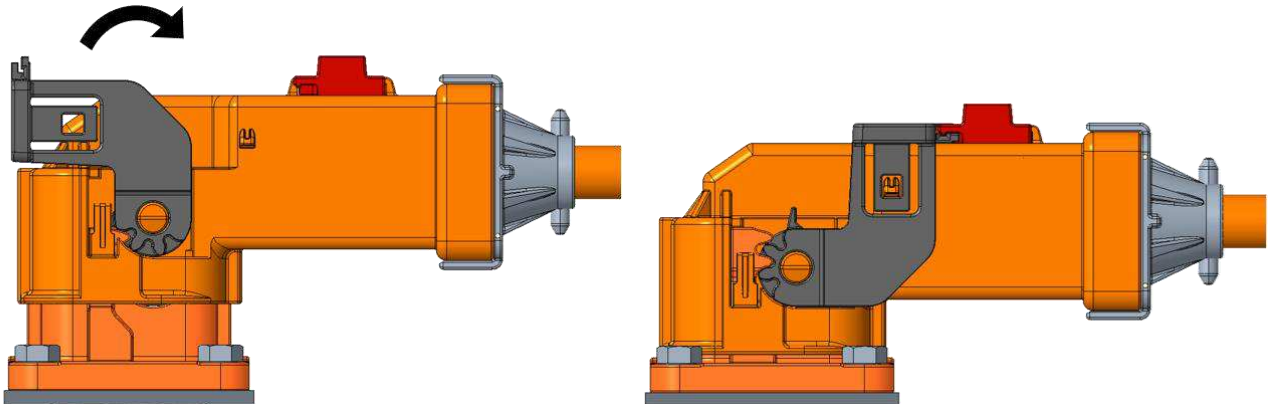

Figure 15: Lever Actuation from Open to Close
4. Rotate the lever towards the connector body until it is completely in the closed position as shown in Figure 15.